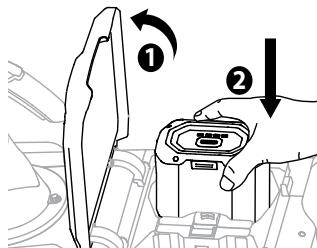

Fig. 4
1. Raise the battery cover. (1, Fig. 4)
3. Align the ribs of the battery pack with the mounting slots in the battery port. Insert the battery pack into the battery holder until you hear a "click". Ensure that the latch snaps into place and the battery feels secure. (2, Fig. 4)